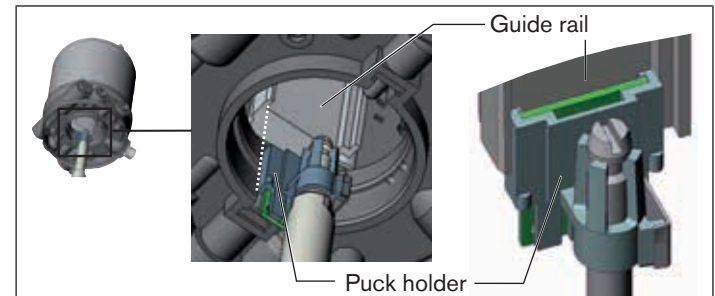

Fig. 5: Aligning the puck holder
→ Control function A pressurize the pilot air port 1 (see „Fig. 5“) with compressed air (5 bar): valve opens.
2. the supports of the control unit can be inserted into the pilot air ports of the actuator (see “Fig. 5”).